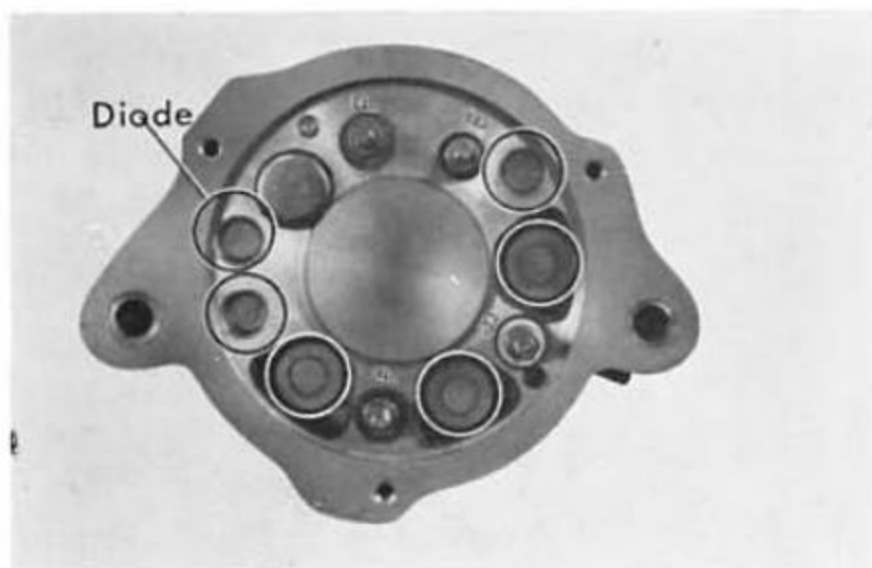

Fig. 19B-7.
4. Remove three bolts, washers, and disassemble cover and cover gasket from the rear cover. Remove the nuts, washers, and disconnect the lead wires (Fig. 19B-4).